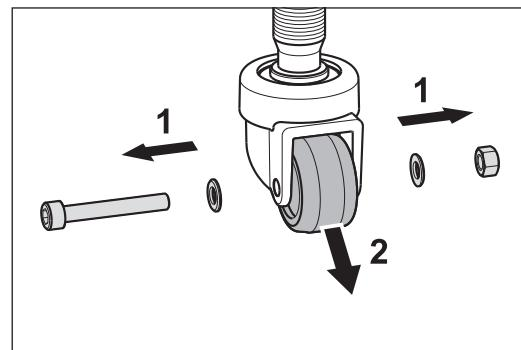

Fig. 68 Remove the screw, the two washers and the nut (1) and remove the wheel from the wheel fork (2).
- 2 Remove the screw with the two washers and the nut from the wheel fork (fig. 68, 1).
- 3 Remove the wheel from the wheel fork (fig. 68, 2).